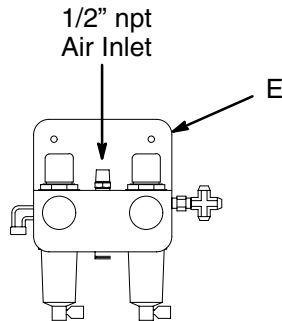

Fig. 3.10
1. 25 ft. (7.6 m) of air line is provided with the air control kit (E). See Fig. 3.10.